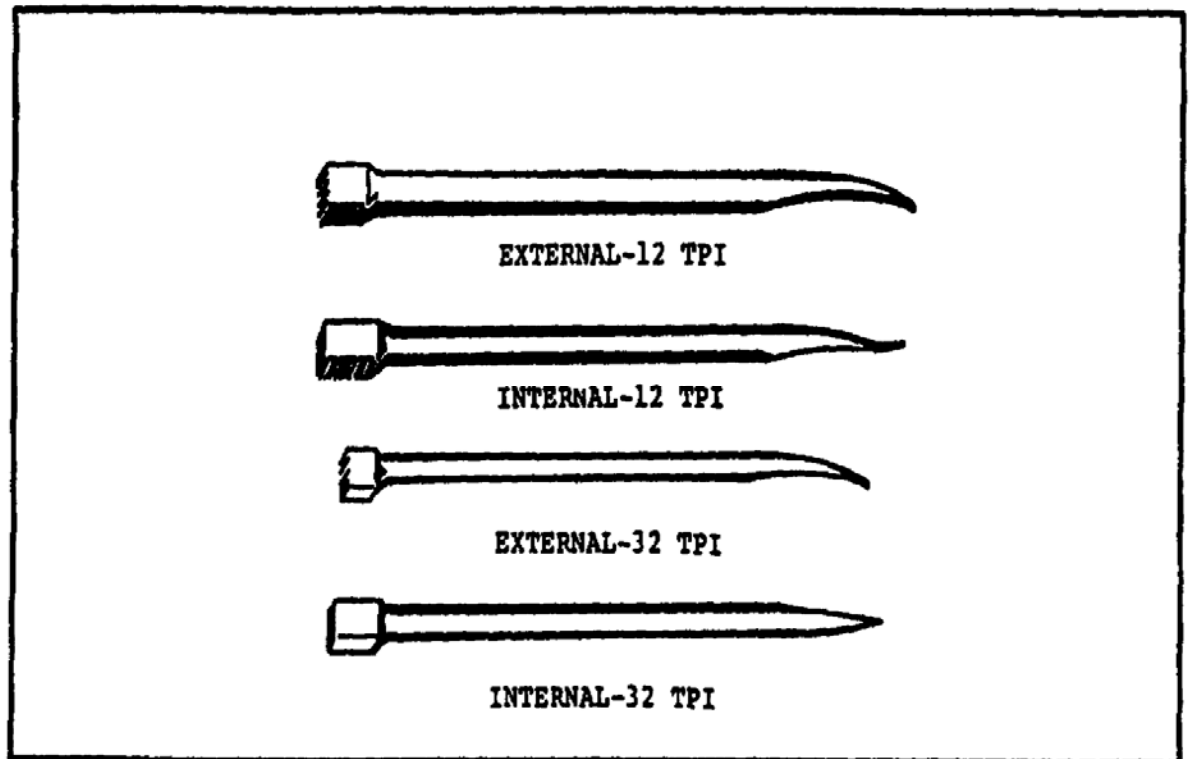

FIGURE 145. THREAD CHASERS.
b. *Types of Thread Chasers.* Thread chasers (figure 145) are threading tools that have several teeth. These tools are available to chase threaded parts having standard threads. The internal thread chaser has its cutting teeth located on a side face. The external thread chaser has its cutting teeth on the end of the shaft. The handle end of the tool shaft tapers to a point.